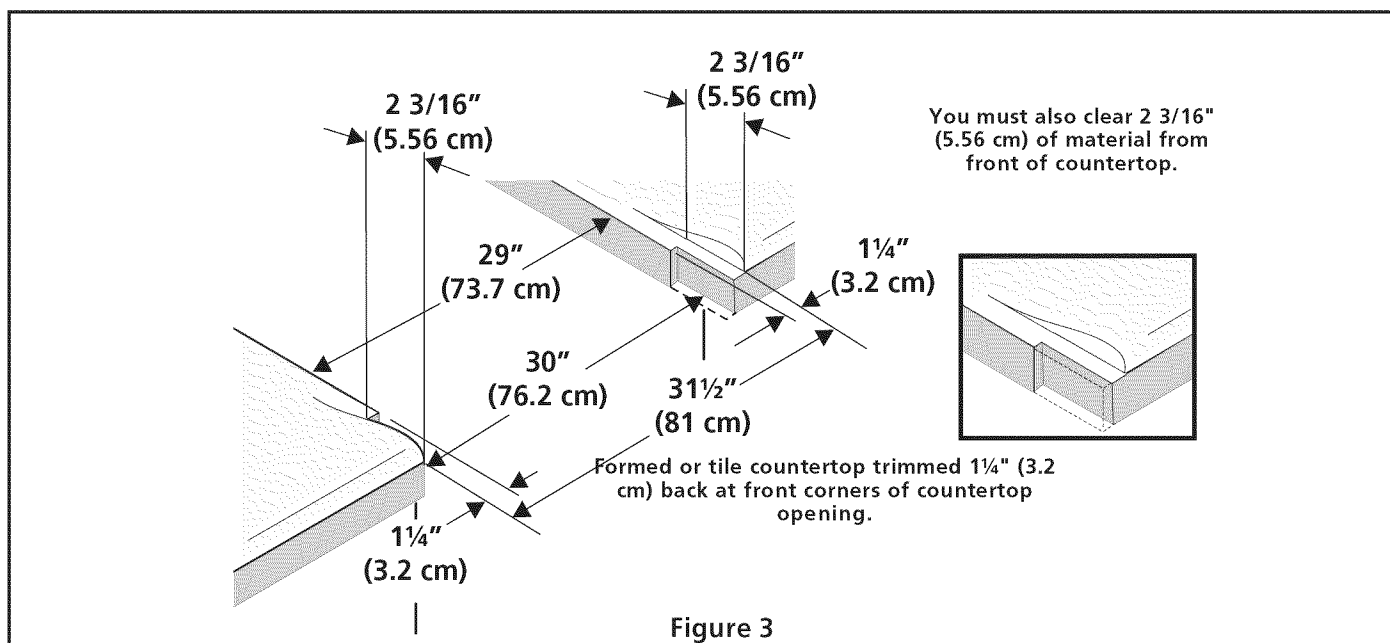

Figure 3
- 1.3 **IMPORTANT** • For existing cutout width of 29" (73.7 cm) (Figure 3):